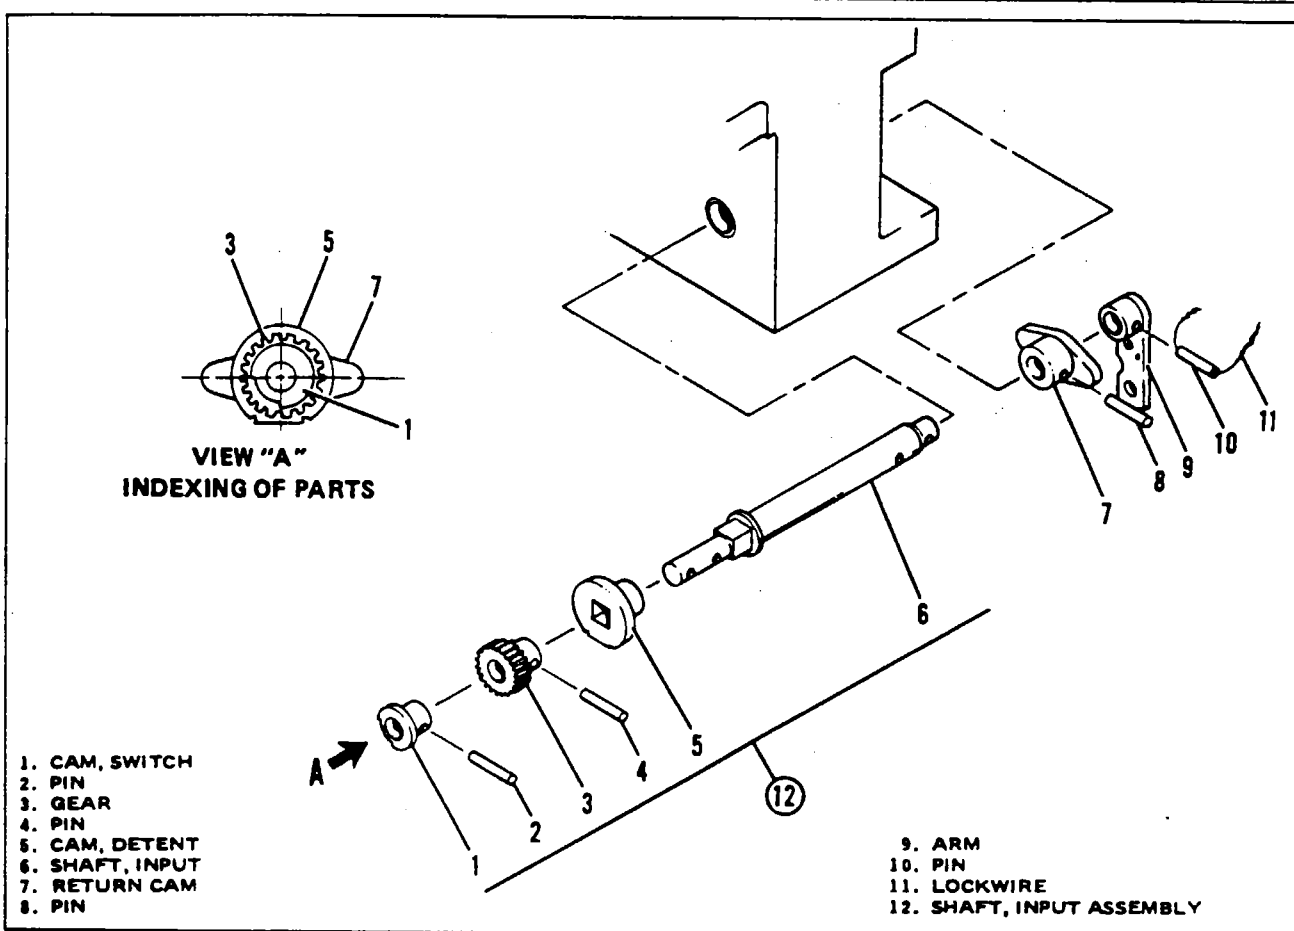

Figure 6-14. Power Pack Handle-Release Mechanism (Wiebel Tool)
6-79. DISASSEMBLY OF LANDING GEAR HANDLE RELEASE MECHANISM. (Refer to Figure 6-14.)
6-93. ASSEMBLY OF POWER PACK HANDLE RELEASE MECHANISM. (Refer to Figure 6-14.)
- a. If the switch cam (1), the gear (3) and the detent cam (5) was removed from the input shaft (6), then the parts must be assembled and indexed as shown in Figure 6-14, View "A."
- b. Lubricate the input shaft (6), slide detent cam (5) and gear (3) into place and secure gear (3) with roll pin (4).
- c. Slide switch cam (1) onto input shaft (6) and secure with roll pin (2). Install assembly into Power Pack body.
- d. Install the return cam (7) and secure with roll pin (8). Check the landing gear shaft for freedom of movement in the Power Pack body. Check for slight end play between the input shaft and the Power Pack body. If shaft binds, remove return cam (7), lap face on return cam boss and reinstall return cam.
- e. Install the Power Pack control arm (9) on the end of the shaft with the arm pointing down. Align the holes between the shaft and the arm assembly and install the roll pin (10). Install .041 safety wire (11) through the roll pin and around half of the arm. Pull the twisted end of the safety wire around the other half of the arm assembly. (Refer to Figures 6-14 and 6-15.)